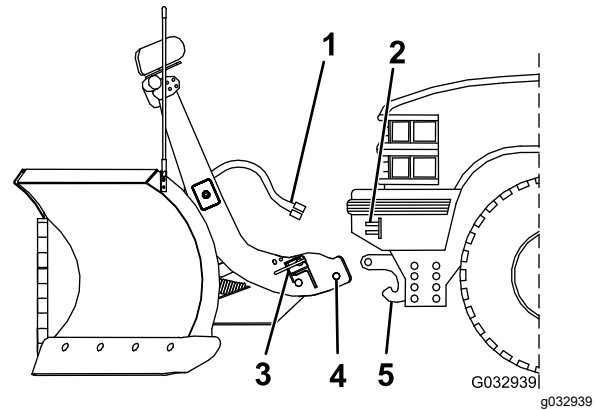

Figure 23
3. Line up the vehicle with the snowplow and slowly drive forward until the lower pin contacts the push-beam pin receiver (Figure 23).
- Remove the electrical-plug dust covers and connect the plow wire harness to the vehicle wire harness (Figure 23).